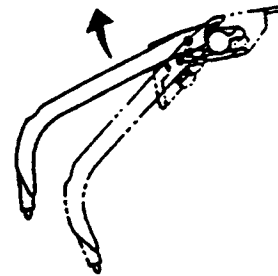

Figure 6.29
- (3) Pens can be removed from the pen holder by lifting the center portion of the cartridge upward (Figure. 6.29).